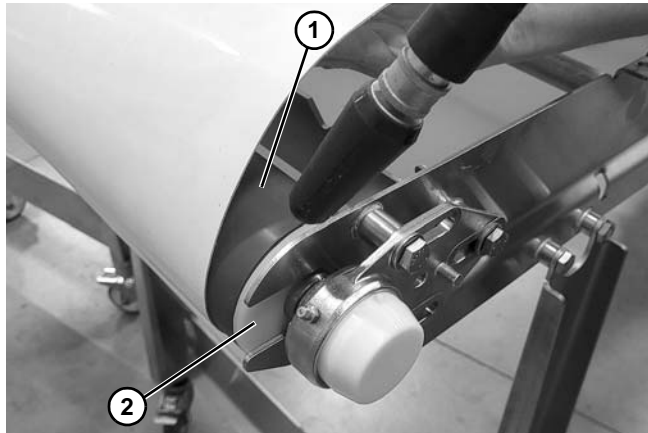

Figure 28
- c. Drive Tail: Clean drive spindle (**Figure 28, item 1**). Make sure to clean around spindle guards (**Figure 28, item 2**).